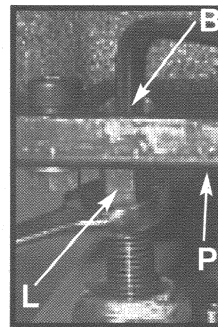
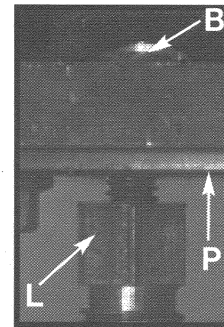
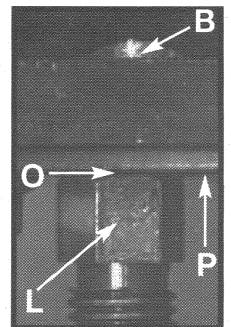

Fig. 6A
Fig. 6B
Fig. 6C
4. With a 1/2" wrench hold the hex top of the front, right leveling screw (L) Fig. 6A. Then using a 3/16" hex wrench loosen screw (B) four full turns. Turn leveling screw clockwise Fig. 6B until it no longer touches the support plate (P) as shown. Then turn it counterclockwise until it just touches the support plate (P) Fig. 6C without raising the plate as shown at (O). Hold the hex top of the leveling screw (L) Fig. 6A and tighten hex screw (B).